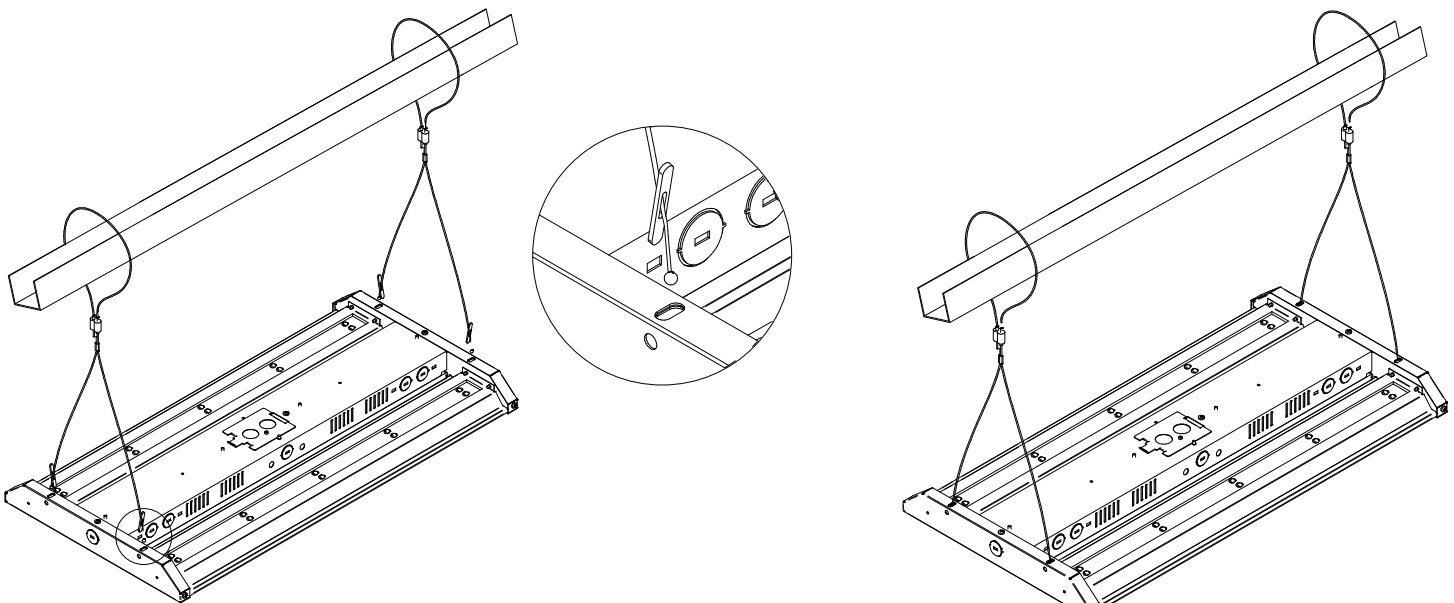

Figure 2
- Secure the end of the aircraft cable (not provided) to a structure using hardware rated for the load. Insert each cable's toggle plates into the oval holes located at each end of the fixture. *Pull on each cable to make sure the toggle plates are securely in place. (Figure 2)